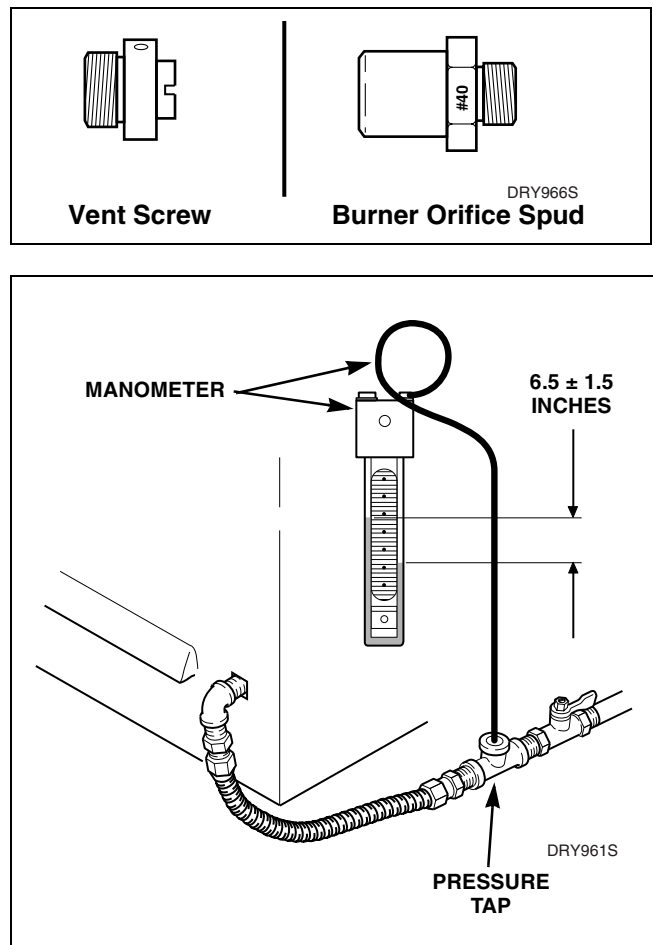

Figure 47
**NOTE:** When converting the dryer gas valve to Natural Gas, be sure the incoming gas supply line is equipped with a pressure regulator (located ahead of the dryer) that will maintain the gas supply to the dryer at  $6.5 \pm 1.5$  inches ( $16.5 \pm 3.81$  cm) water column pressure and a vent to the outdoors must be provided. Remove pressure tap pipe plug and check gas pressure by connecting a "U" tube manometer (or similar pressure gauge) to the pressure tap. Refer to *Figure 47*.